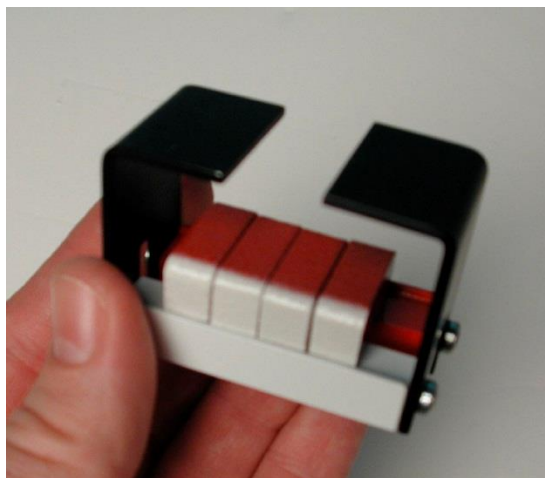

Figure 2: Magnets of the set up
1. Insert between 4 – 6 magnets into the magnet holder to provide a constant magnetic field. Be sure to center the magnets in the holder. (See Figure 2)